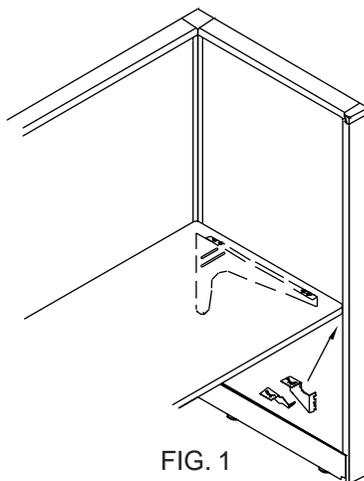

FIG. 1
3. While lifting the front edge of the worksurface slightly, slide the teeth on the WSB into the trimrail slot so the top of the WSB is the same height as the bottom of the worksurface (Figure 1).